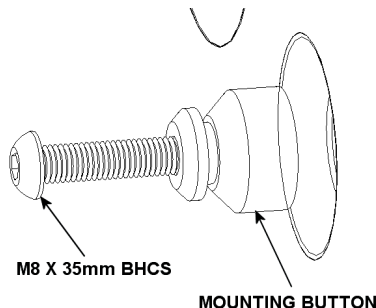

Figure 3
2. Place nylon mounting buttons over mounting holes on back of display and attach using M8-1.25 x 35 mm BHCS (See Figures 3 & 4).